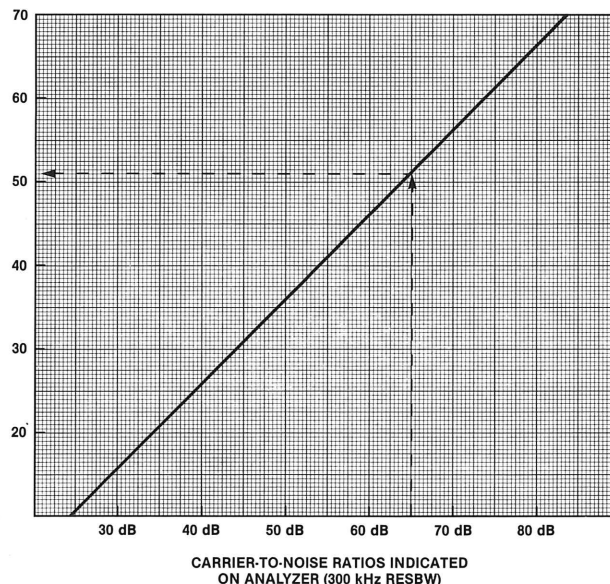

Figure 8-4. Analyzer bandwidth and log error conversion chart.
10. Add the correction factor obtained in step 9 to the C/N measured in step 7. Referring to figure 8-4, use the corrected C/N value from the spectrum analyzer to find the C/N for a 4 MHz system.
Referring to figure 8-4, 65 dB along the x-axis crosses the noise conversion curve at 50.3 dB. Therefore the 4 MHz C/N is actually 50.3 dB.
3. The C/N of the distribution system can be determined by performing steps 1 through 4 as given. Skip to step 6. In step 7, measure from the top of the screen to the noise floor of an unoccupied adjacent channel. For example, 2 divisions to the left of the picture carrier in figure 8-4.